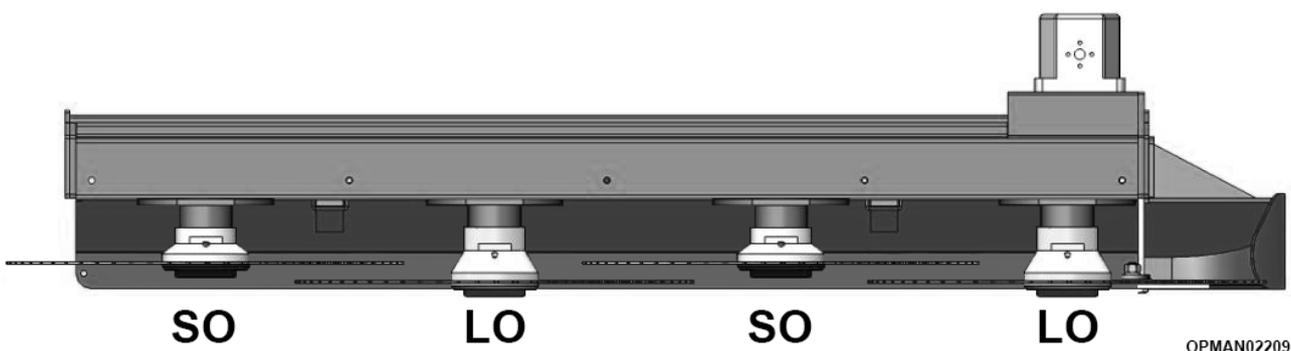

Figure 14
With reference to Figure 14, always place a short offset blade bearing at the top end of the saw head (SO) (opposite end to the motor).